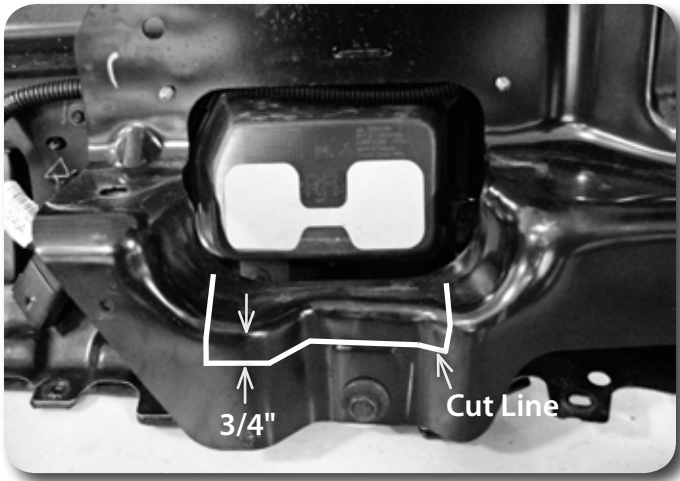

Figure 15
25. The front bumper mounts will also need to be modified. Make a cut mark 3/4" below the edge of the bracket as shown. Figure 15 Finish the cut line by going straight up to the original opening in the bracket. Cut at the marks with a cut off wheel or reciprocating saw.